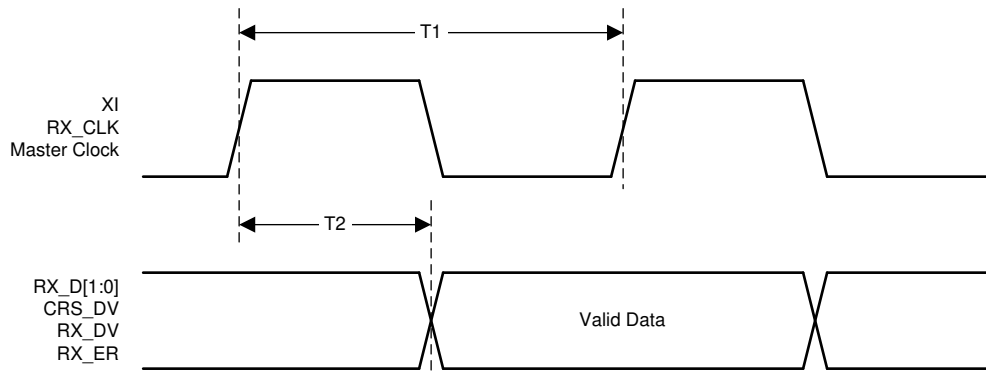

Figure 7-10. RMIITransmit Timing
(1) Ensured by production test, characterization or design.
(2) See Figure 7-10.